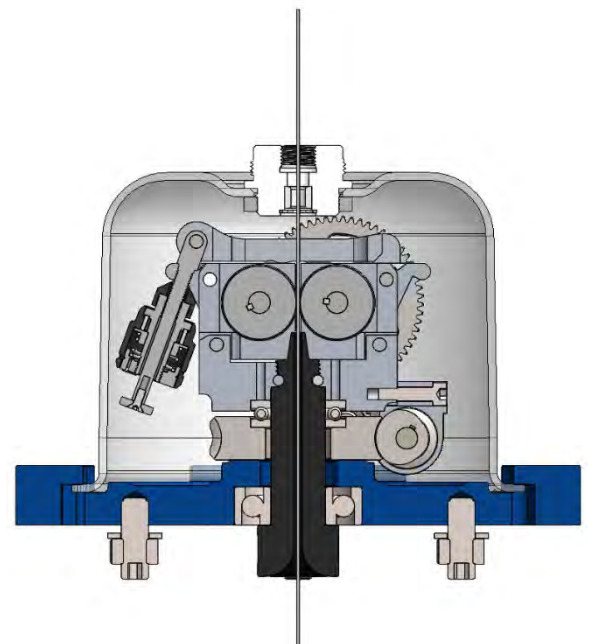

Figure 21
7. Position the cover as described in the previous paragraph, being careful to feed the wire through the top cover opening. Figure 21;